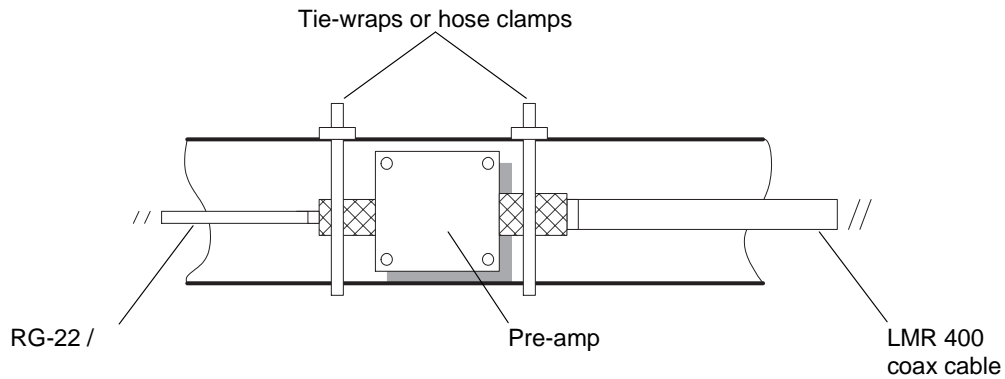

Figure 14. Securing the Pre-Amp
- 5 Secure the pre-amp to the antenna mounting bracket arm using tie-wraps or stainless steel hose clamps (see Figure 14).